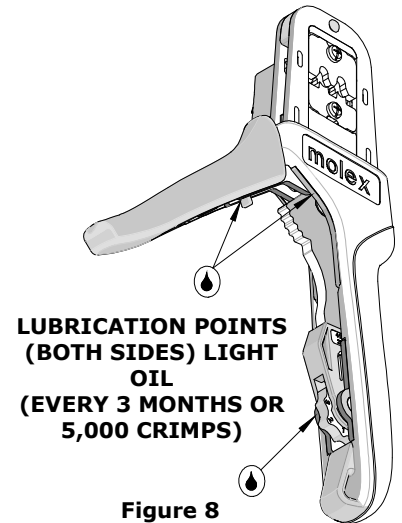

Figure 8
3. Make certain all pins, pivot points and bearing surfaces are protected with a thin coat of high-quality machine oil. Do not oil excessively. The tool was engineered for durability, but like any other equipment, it needs cleaning and lubrication for a maximum service life of trouble-free crimping. Light oil such as 30 weight automotive oil used at the oil points every 5,000 crimps or 3 months will significantly enhance the tool life. See Figure 8.